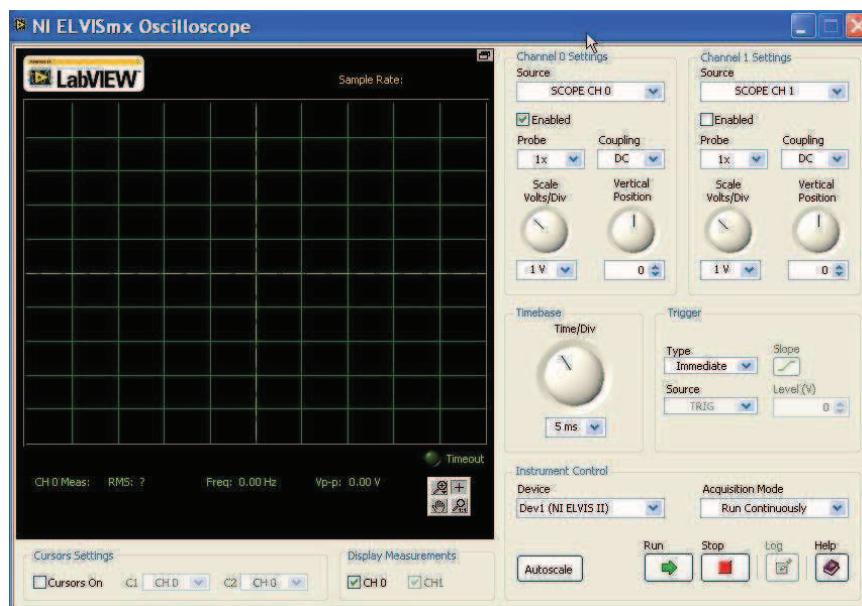

Figure 9
**Note:** If the scope virtual instrument has launched successfully, the instrument's window will be visible (see Figure 9).